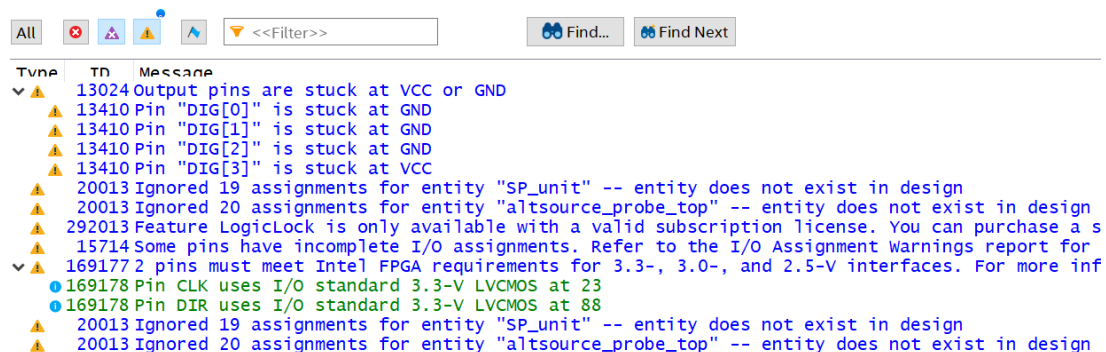

Figure 51
- a. It is acceptable to have some warnings like ones displayed on Figure 51.